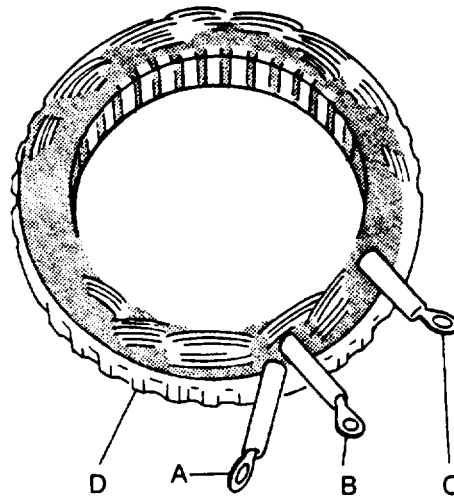

Figure 4-5. Stator Winding Test
- d. Set multimeter for ohms and check stator (Figure 4-5) for open circuits between point D (laminations) and each terminal A, B, and C. If continuity is noted between laminations and any terminal, stator is defective and must be replaced.